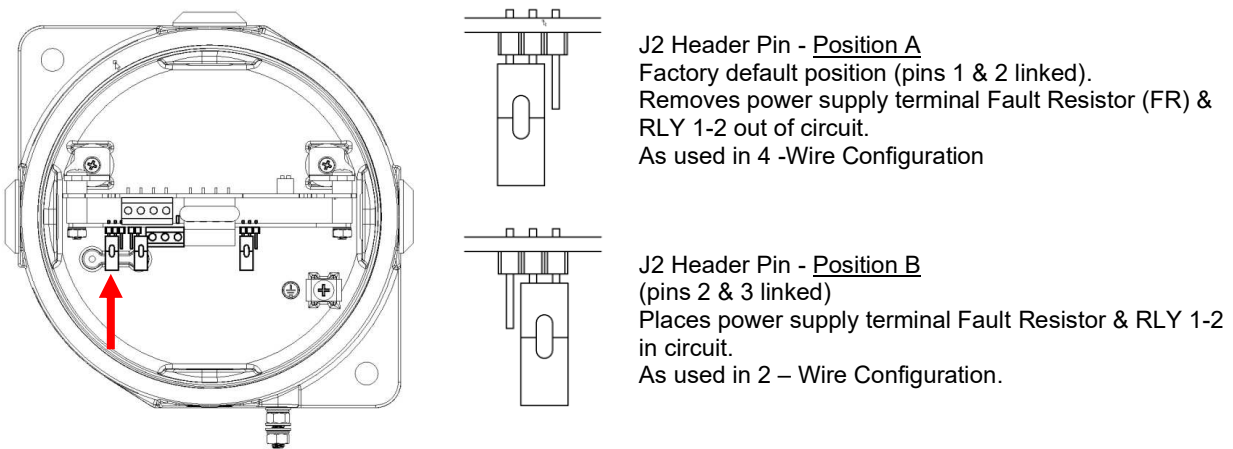

Figure 16: J2 Header pin positions – Fault Resistor (FR)
**Important:** - The 2-wire configuration requires the J2 header pin to be set to position B (see figure 16). Factory default position is A.